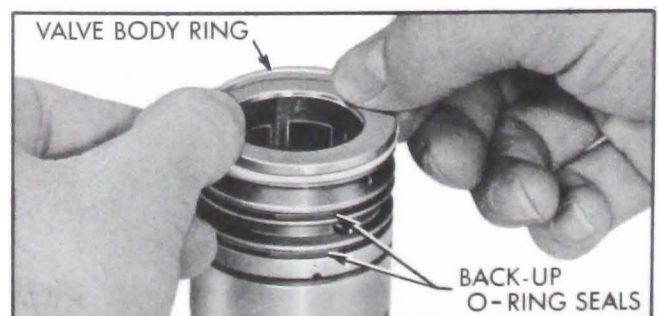

Figure 8-47—Installing Valve Body Rings
1. If removed from valve body, lubricate three new ring back-up O-ring seals in automatic transmission oil and assemble in the three ring grooves on the valve body. Assemble three new valve body rings in the ring grooves over the O-ring seals by carefully slipping over the valve body. See Figure 8-47.